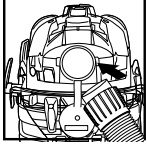

FIGURE 17
39. Your vacuum can be used as a powerful blower. To use your unit as a blower, unscrew blower port cover located on the backside of the tank cover. Clear hose of any obstructions. Insert hose end with locking nut into blower port and tighten locking-nut. **FIGURE 17.**